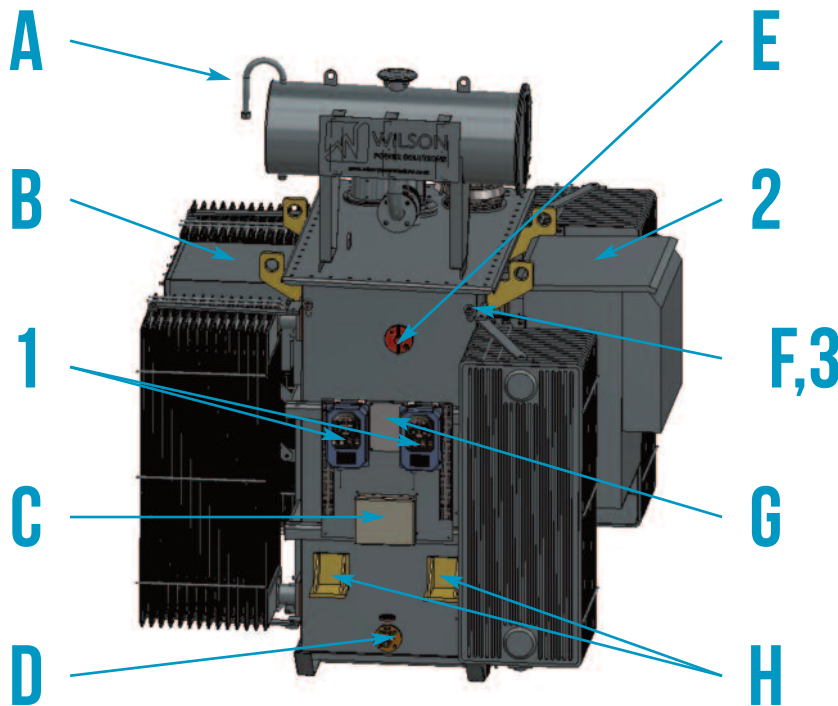
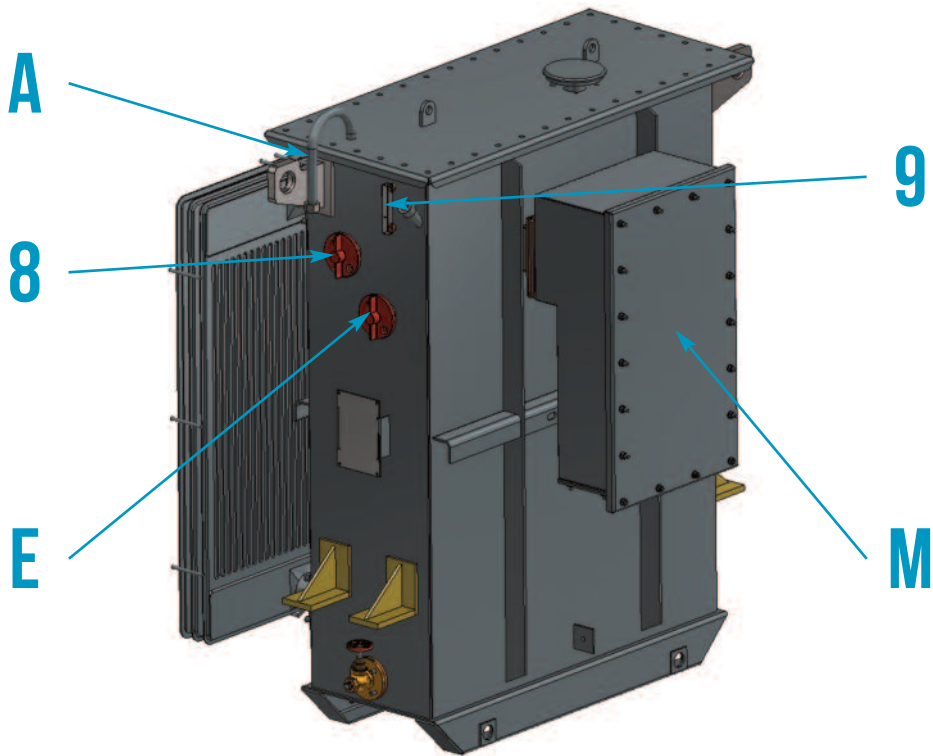

Figure 1a - Transformer View from Tap Switch End
Figure 2 - Dual Ratio Transformer
- A. Connection point for air dehydrating breathers (Figure 1a)
- B. LV connection (standard cable connection) (Figure 1a)
- C. Marshalling Box (Figure 1a)
- D. Drain valve (Figure 1a)
- E. De-energised tap-changer (Figure 1a & Figure 2)
- F. Thermometer pocket (Figure 1a)
- G. Rating plate (Figure 1a)
- H. Jacking points (Figure 1a)
- M. HV connection (standard cable connection) (Figure 2)
- 1. Oil temperature indicator (OTI)/ Winding temperature indicator (WTI) (Figure 1a)
- 2. Ring main units/ACB/ other connections (Figure 1a)
- 3. Thermometer, to install on the thermometer pocket (Figure 1a)
- 8. Off circuit dual ratio changer (Figure 2)
- 9. Oil level indicator (Figure 2)